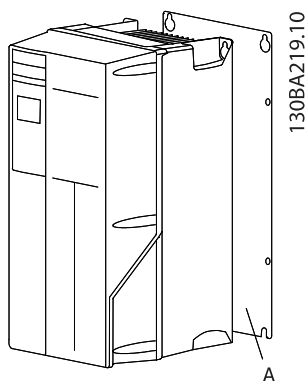
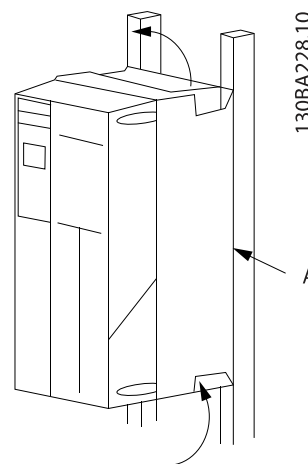

Figure 2.2 Proper mounting with backplate
Figure 2.3 Proper mounting with railings
- Mount the unit to a solid flat surface or to the optional backplate to provide cooling airflow (see *Figure 2.2* and *Figure 2.3*)